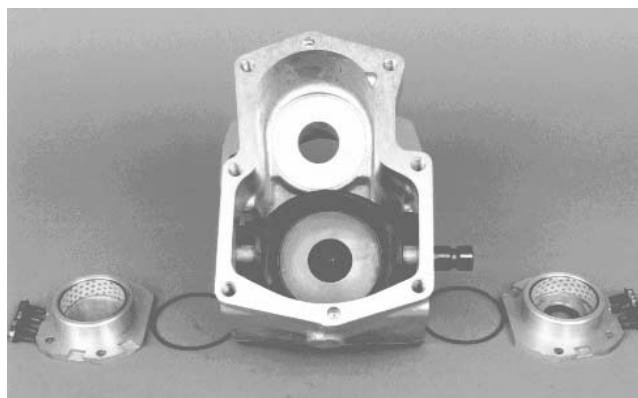

Figure 56
3. Install trunnion cover (with O-ring and trunnion bearing) into housing and over swashplate trunnion (Fig. 56).